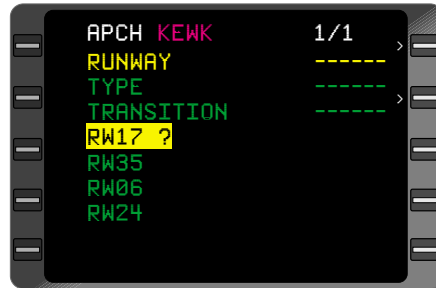

Figure 3-53
2. **ENTER** Key - DEPRESS to display **APPROACH** Page. (Figure 3-53)